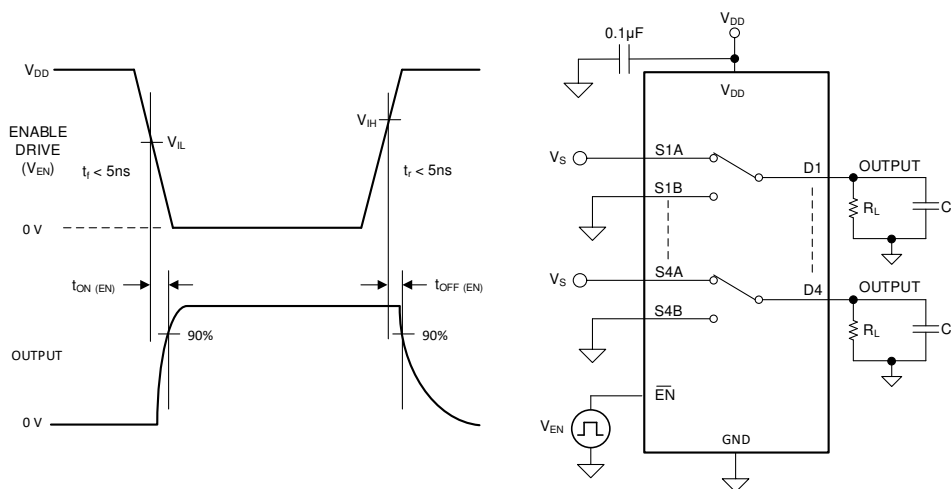

图 22. $t_{\text{ON (EN)}}$ and $t_{\text{OFF (EN)}}$ Time Measurement Setup
7.6 $t_{\text{ON (EN)}}$ and $t_{\text{OFF (EN)}}$ Time
The $t_{\text{ON (EN)}}$ time is defined as the time taken by the output of the device to rise to 90% after the enable has fallen past the logic threshold. The 90% measurement is used to provide the timing of the device being enabled in the system. 图 22 shows the setup used to measure the enable time, denoted by the symbol $t_{\text{ON (EN)}}$.
The $t_{\text{OFF (EN)}}$ time is defined as the time taken by the output of the device to fall to 90% after the enable has fallen past the logic threshold. The 90% measurement is used to provide the timing of the device being disabled in the system. 图 22 shows the setup used to measure enable time, denoted by the symbol $t_{\text{OFF (EN)}}$.